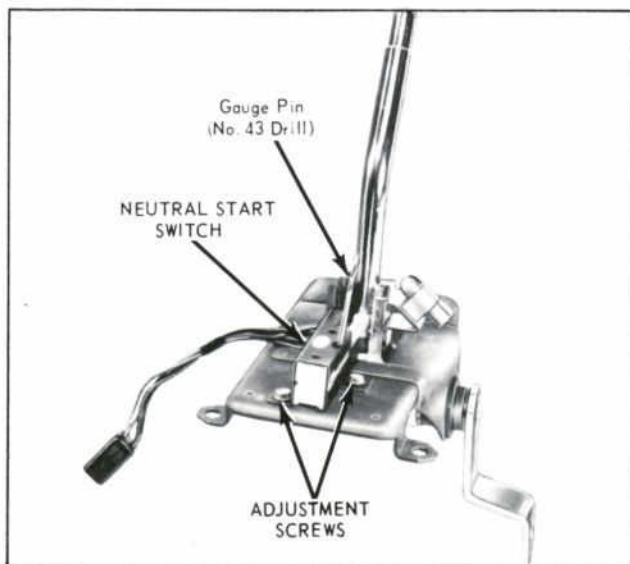

Figure 3—Console Shift Neutral Start Switch—Fairlane-Montego
6. Loosen the two combination starter neutral and back-up light switch attaching screws (Fig. 3).
7. Move the selector lever back and forth until the gauge pin (No. 43 drill) can be fully inserted into the gauge pin holes (Fig. 3).